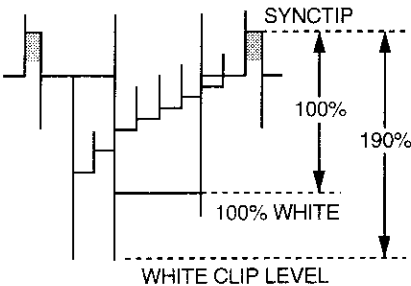

Figure 5-4.
- 1. Connect a oscilloscope to pin(48) of IC401 and GND.
- 3. Make sure that the overshoot of the video signal is clipped at 190% as shown in Figure 5-4.